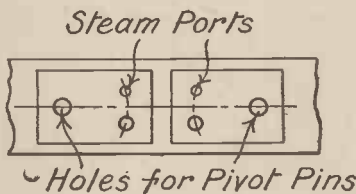

Fig. 6.—Method of marking out the steam blocks on a metal strip.
One steam block must have the position of the ports reversed, so that when looking at the working faces of the blocks the steam port of one is on the left-hand side, and the other on the right-hand side. The two blocks can conveniently be cut out from one piece of strip brass or gunmetal $\frac{1}{8}$ in. thick, being marked out side by side as shown in Fig. 6. After carefully centre-punching the holes for the ports and pivot pins these can be drilled before the blocks are separated and filed to shape. For connecting up to the main steam pipe, cut two pieces of $\frac{1}{2}$ -in. brass tubing (DD) $\frac{1}{4}$ in. long, and cut a thread on the ends of each piece for screwing into the steam blocks and the connecting T-piece as shown in Fig. 1. After screwing these parts together so that the outer faces of the steam blocks are $1\frac{1}{2}$ in. apart, the latter can be neatly soldered in the slots in the tops of the standards. After assembling the cylinders, tension springs, and adjusting nuts, and applying a little lubricating oil, the engine will be ready for a trial run under steam.